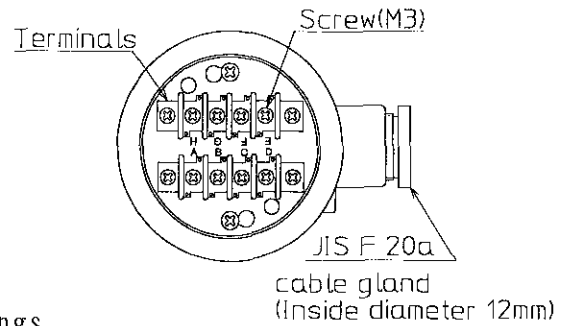

Fig. 7
Standard Box: loosen M3 screws. See Fig. 7.
- Standard Box Fig. 7: Install solderless lugs fitted to M3 screw to the end of lead wires and the inner conductor.